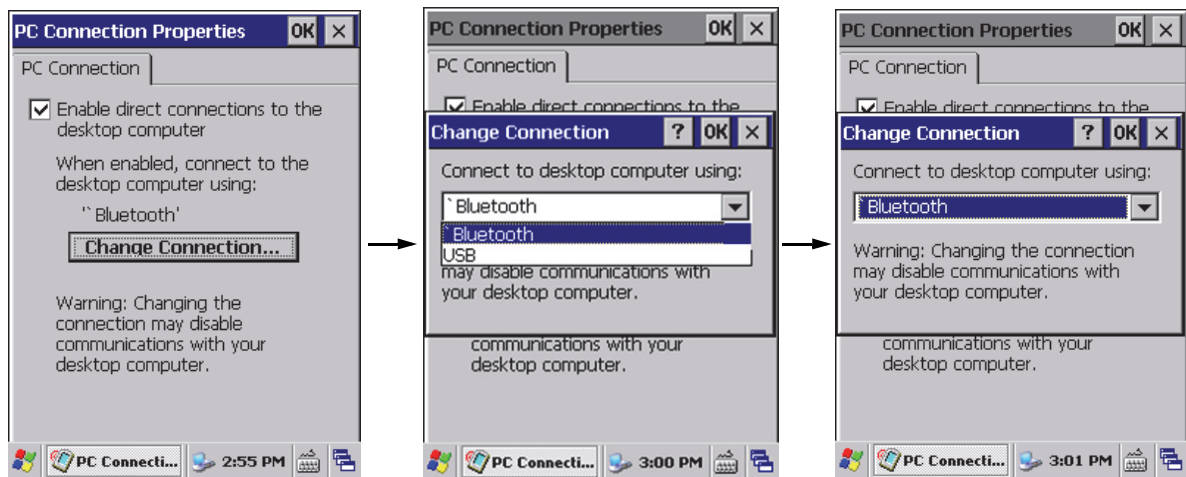

Figure G-14 Sequence to set the connection type to Bluetooth®
2. Tap **Change Connection**, and then select **Bluetooth** on the menu (see Figure G-14 on page 183).